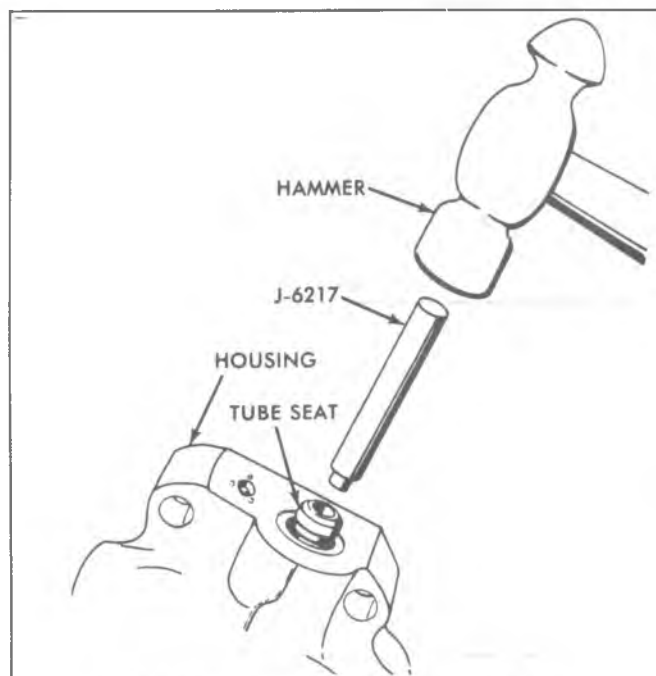

Fig. 5-55-Installing Tube Seat Using J-6217
6. Install tube seat with Tool J-6217 as shown in Figure 5-55.